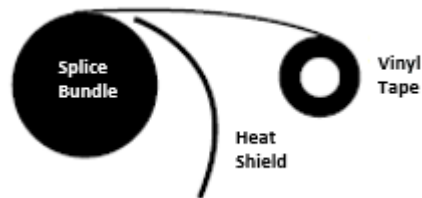

Figure 8
16. Next step is the installation of Heat Shield (Variable Liner). Before installing roll tightly to take the shape of the splice bundle. (Figure 8)